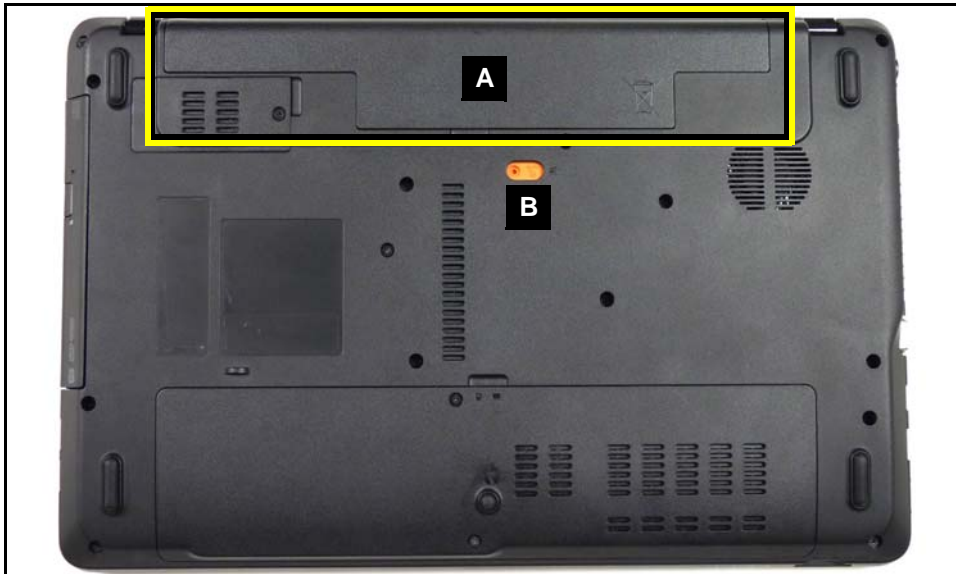

Figure 3-4. Battery
Follow local regulations for battery (A, Figure 3-4) disposal.
1. Move lock/unlock latch (B) into unlock position (Figure 3-4).
2. Install battery (A).
3. Move lock/unlock latch (B) into lock position.